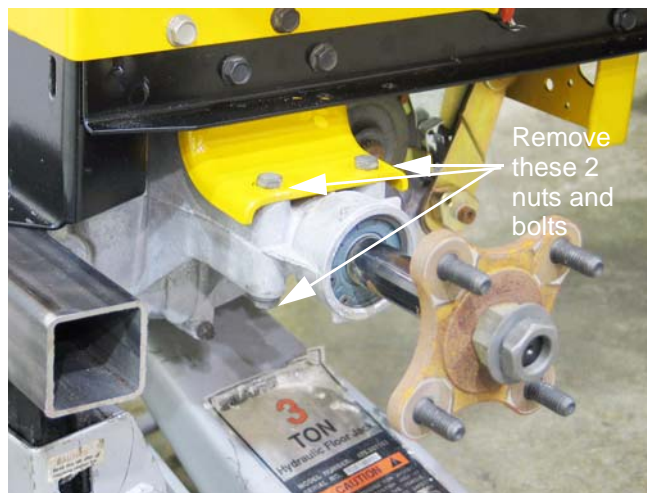

Figure 34.20
34.20. Remove the pair of nuts and bolts that fasten each axle housing of the transaxle to the brackets on the tractor frame. Use a pair of 1/2" wrenches. See Figure 34.20.